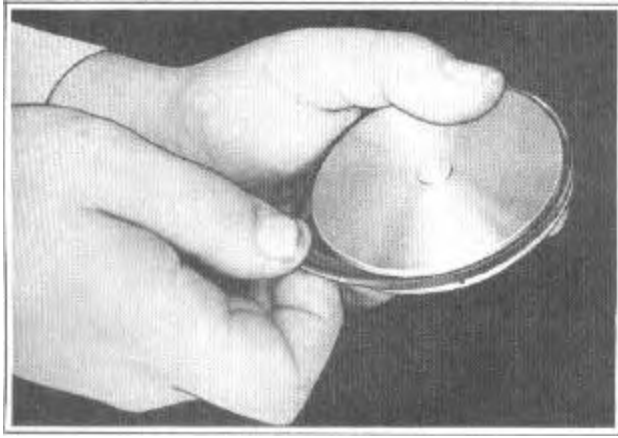

FIGURE 75
**NOTE:** Make sure the lip of the seal is toward the outer face of the piston, Figure 75. Avoid stretching the seal any more than is necessary to install the seal on the piston.
5. Lift the piston seals out of the grooves in the pistons, Figure 75.
**NOTE: Make sure the lips of the seals are toward the outer face of the pistons, Figure 75. Avoid stretching the seals any more than is necessary to install the seals on the pistons.**